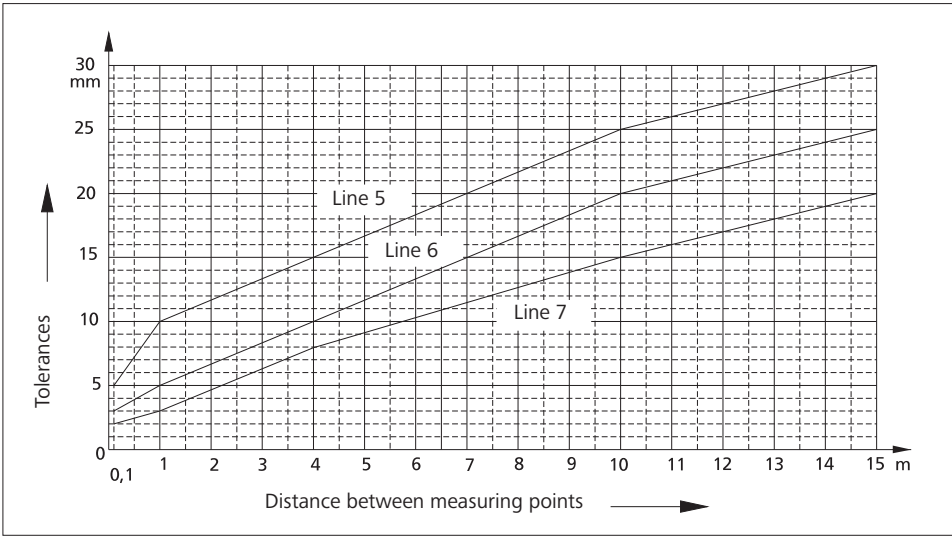

Fig. 15.2
* Intermediate values can be found in Fig. 15.2. Round up values found to full millimetres.